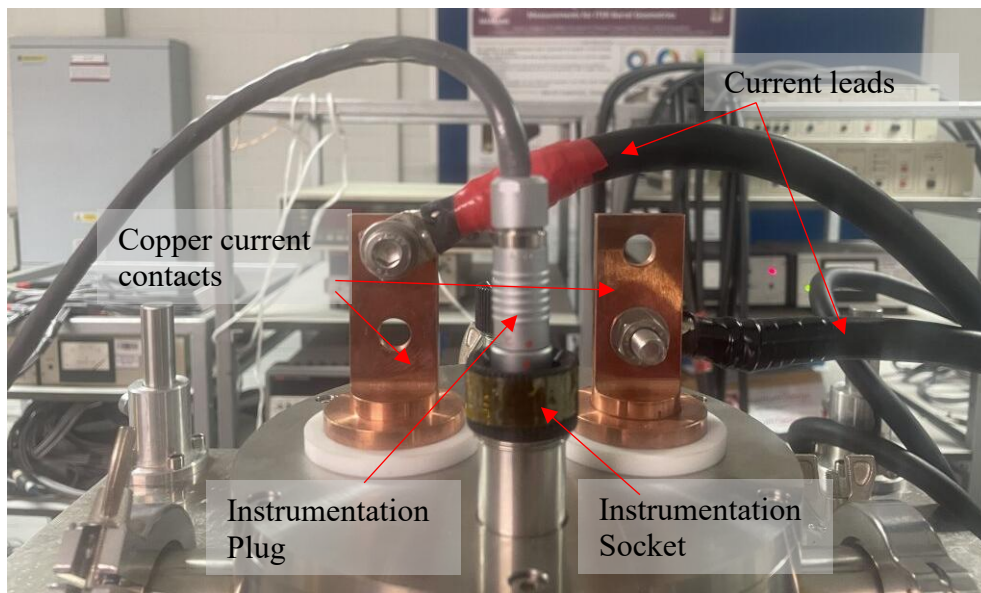

Fig. 7: The components of the top end of the probe.
- 4) Plug the instrumentation plug into the socket at the top of your probe. This connects your voltage taps to the data acquisition instrumentation. Refer to figure 7.